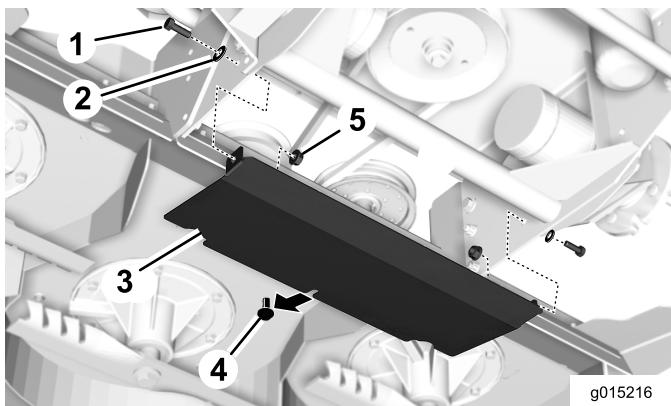

Figure 6
- A. Remove the center nut, bolt and washers from the center fixing on the deck (Figure 6).
- B. Install the guard to the traction unit using 2 bolts (M8 x 25 mm), 4 washers (M8-17), and 2 locknuts (M8) in the lower hole on the engine frame (Figure 6).
- C. Secure the front of the guard to the deck using the center bolt, washer, and nut you removed previously (Figure 6).